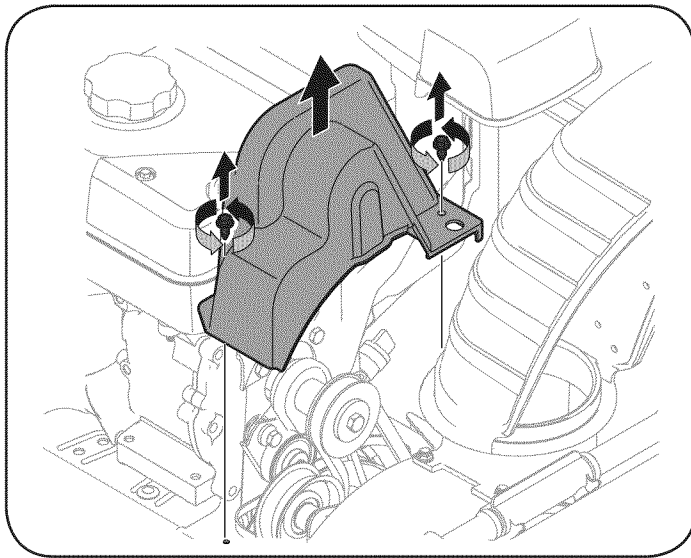

Figure 25
2. Remove the plastic belt cover on the front of the engine by removing the two self-tapping screws. See Figure 25.